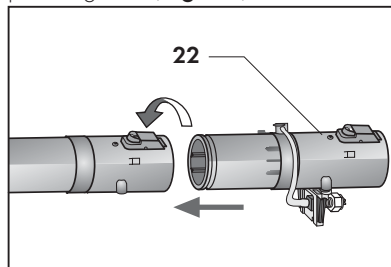

Fig. 22
- Install the female end of the extension hose onto the male end of the sprinkler and rotate the locking ring on the extension hose (Fig. 22).